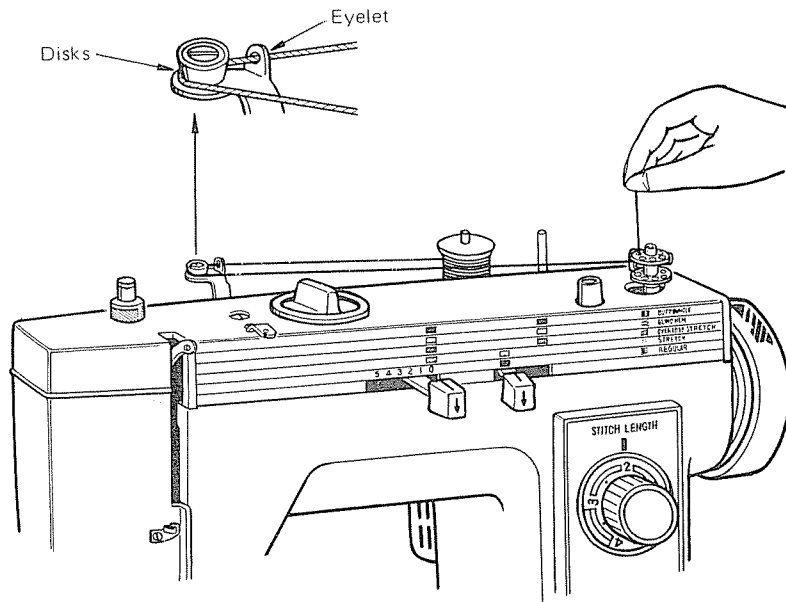

Fig. 2
3. Lead thread into thread guide bracket eyelet then between the discs. (Fig. 2)